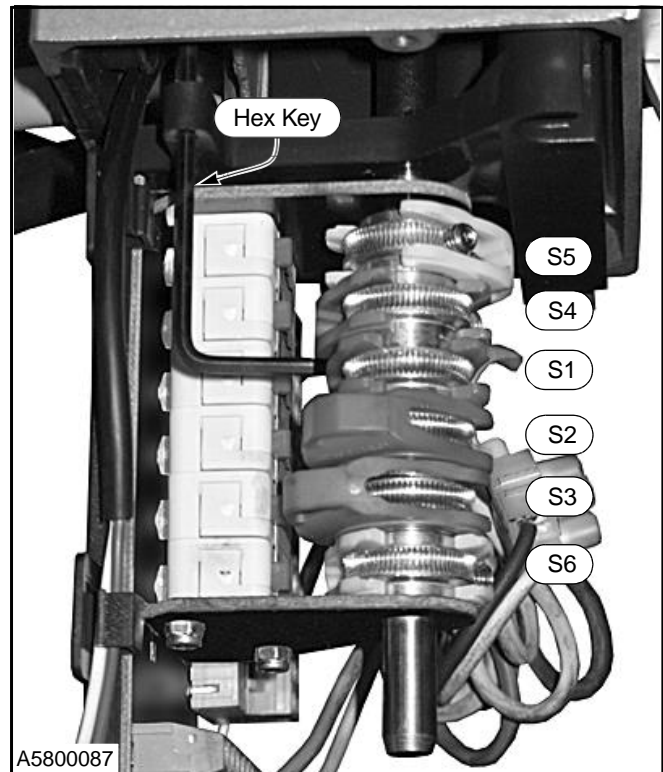
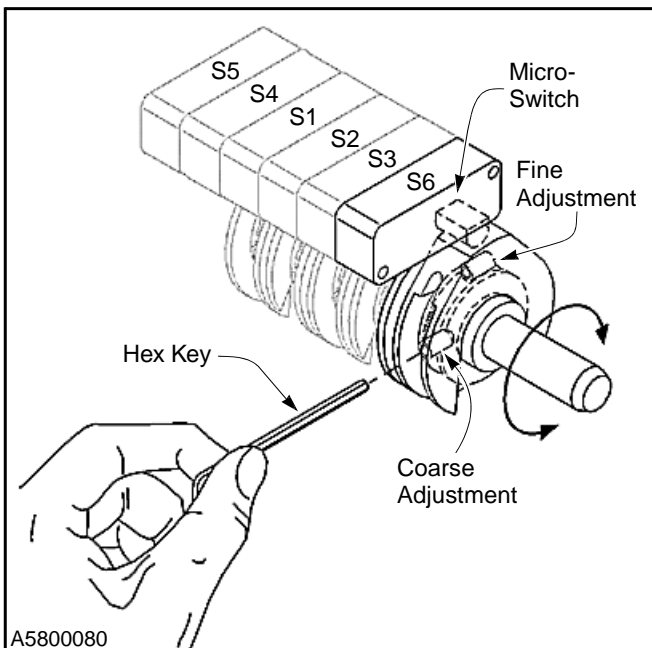

Figure 55
Figure 54
2. Rotate the open-limit cam switch (S3) clockwise until you hear the micro-switch click, and tighten the coarse adjustment locking set screw using the supplied hex key. (See Figure 54 and Figure 55)
3. Rotate the safety close-limit cam switch (S1) clockwise until you hear the micro-switch click. (See Figure 54 and Figure 55)
5. Rotate the close-limit cam switch (S4) clockwise until you hear the micro-switch click, and tighten the coarse adjustment locking set screw using the supplied hex key. (See Figure 54 and Figure 55.)
6. Rotate the safety close-limit cam switch (S2) clockwise until you hear the micro-switch click. (See Figure 54 and Figure 55.)